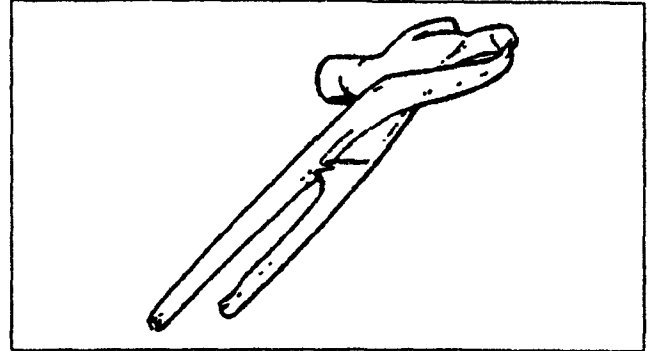

Fig.5
**#0006452 Weight pliers (Fig.5).**